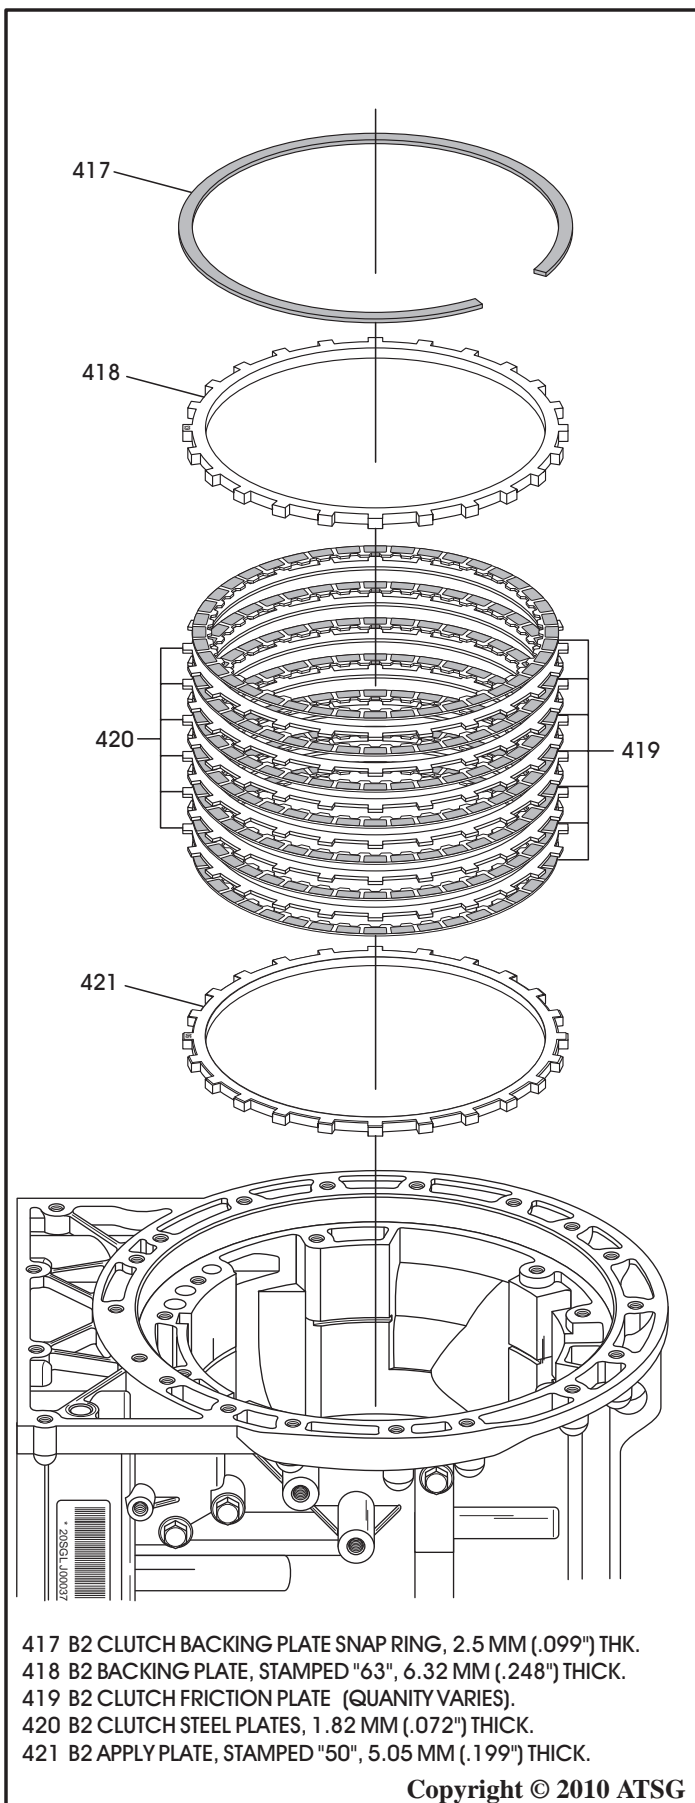

Figure 65
56. Remove the B2 clutch backing plate snap ring, as shown in Figure 65.
57. Remove the B2 clutch backing plate, as shown in Figure 65.
58. Remove the B2 clutch friction and steel plates, as shown in Figure 65.
59. Remove the B2 clutch apply plate, as shown in Figure 65.